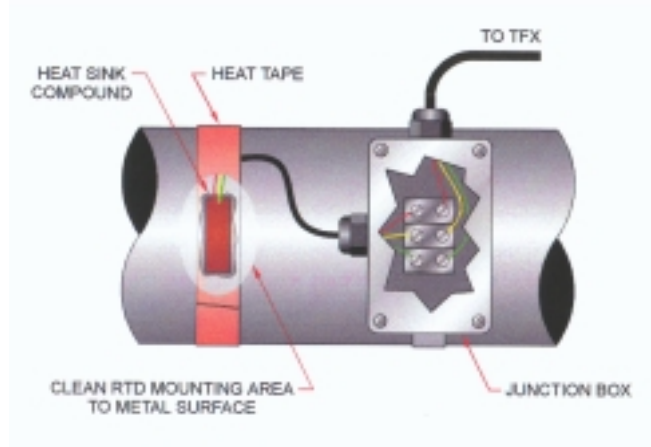

Figure 1
3. Place a small amount of heat sink compound on the pipe in the RTD installation location. See Figure 1. Press the RTD firmly into the compound. Fasten the RTD to the pipe with the included heater tape.